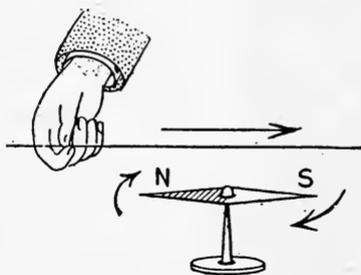

FIG. 22.
70. A close relation appears to exist between magnetism and electricity. In the scientific world this was first established in 1819, when a Danish investigator, Oersted, announced that a compass needle is disturbed by the neighborhood of an electric current. If the wire through which the current flows is held above and parallel to the needle, the needle tends to set itself at right angles to the wire. (See fig. 22.) The degree to which it does this, depends on the strength of the current in the wire and on its nearness. If the current is just strong enough and near enough to balance the magnetism of the earth, the needle will deflect 45 degrees. The explanation given for this phenomenon is that *the current creates another magnetic field* (see § 68)